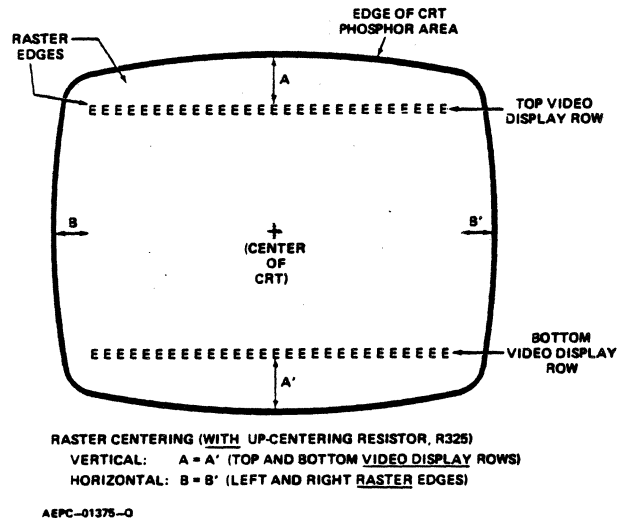

Figure 10. Raster Centering With Up-Centering Resistor, R325
- Step 1. Turn up the Remote Brightness control (R213) until the four (4) edges of the raster are visible.
- Step 2. (Reference Figure 8.) Rotate the two (2) centering magnets (simultaneously) until the left and right edges of the raster are centered horizontally, and the top and bottom edges of the video display are centered vertically within the active phosphor area of the CRT. (Reference Figure 10.)